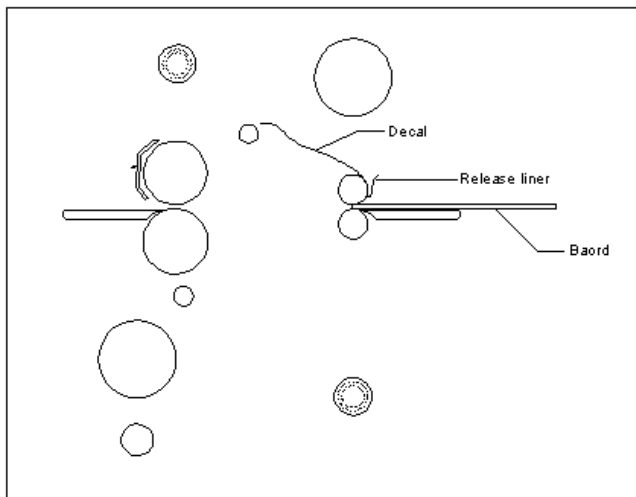

Fig 38
1. This application can also be performed from the rear operating position. Reference Figure 38 for illustration.
Tips for mounting a Decal (Figure 38)